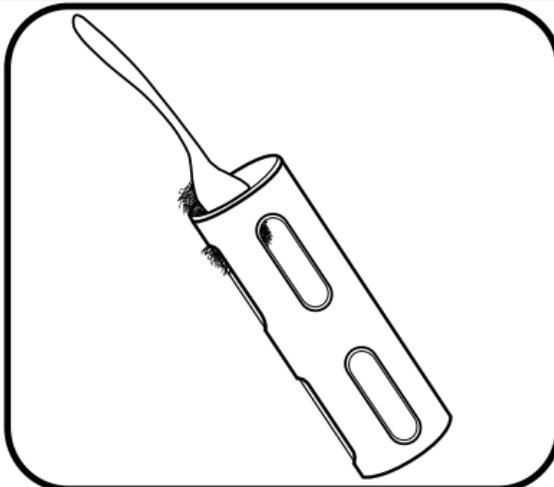

Figure 23. Scrub to remove heavy biofouling [Source: [ER \[02\]](#)]
**STEP 2.2** | If biofouling remains on the guard, use a small plastic scrub brush or plastic scraper to gently scrub the biofouling off the guard (**Figure 23**).